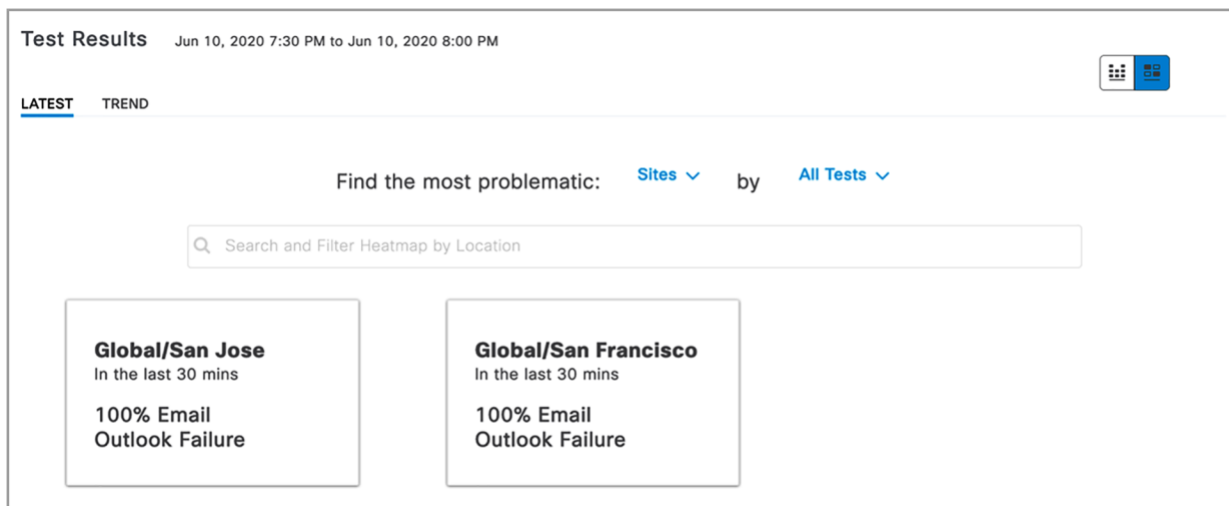

Figure 84.
- k. Observe that the page has changed into an insights view (**Figure 84.**).
- l. Just as in the heatmap view, to filter the insights by specific site locations and/or tests, click the Sites and All Tests drop-down menus to make a selection (**Figure 84.**).